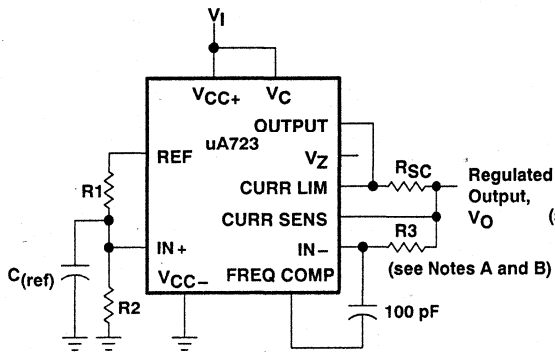
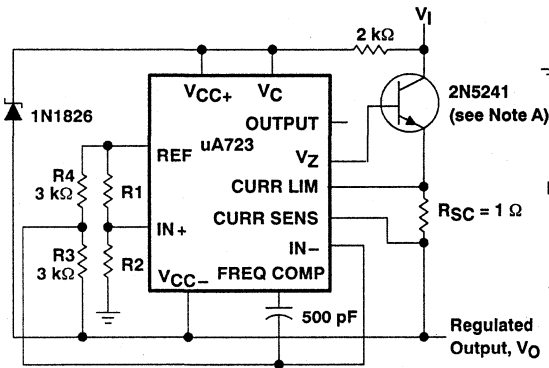

Figure 1. Basic Low-Voltage Regulator
Figure 7. Positive Floating Regulator
NOTES: 2. For all values in this table, the device is connected as shown in Figure 1 with the divider resistance as seen by the error amplifier ≤ 10 kΩ. Unless otherwise specified, V_I = V_{CC+} = V_C = 12 V, V_{CC-} = 0, V_O = 5 V, I_O = 1 mA, R_{SC} = 0, and C_{ref} = 0.
| <p>Outputs from 2 V to 7 V See Figures 1,5,6,9, 11, 12 (4) and Note 4</p> $V_O = V_{(ref)} \times \frac{R_2}{R_1 + R_2}$ | <p>Outputs from 4 V to 250 V See Figure 7 and Note 4</p> $V_O = \frac{V_{(ref)}}{2} \times \frac{R_2 - R_1}{R_1};$ <p>$R_3 = R_4$</p> | <p>Current Limiting</p> $I_{(limit)} \approx \frac{0.65 \text{ V}}{R_{SC}}$ |